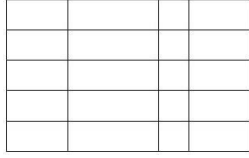

Fig 21
- 4. Enter to finish the command. (Fig21)